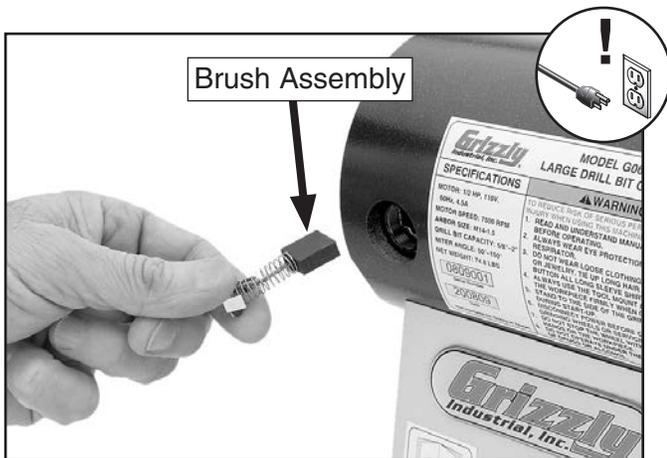

Figure 38. Removing the front motor brush assembly.
2. Unscrew the plastic cover, and remove the front motor brush assembly, as shown in **Figure 38**.